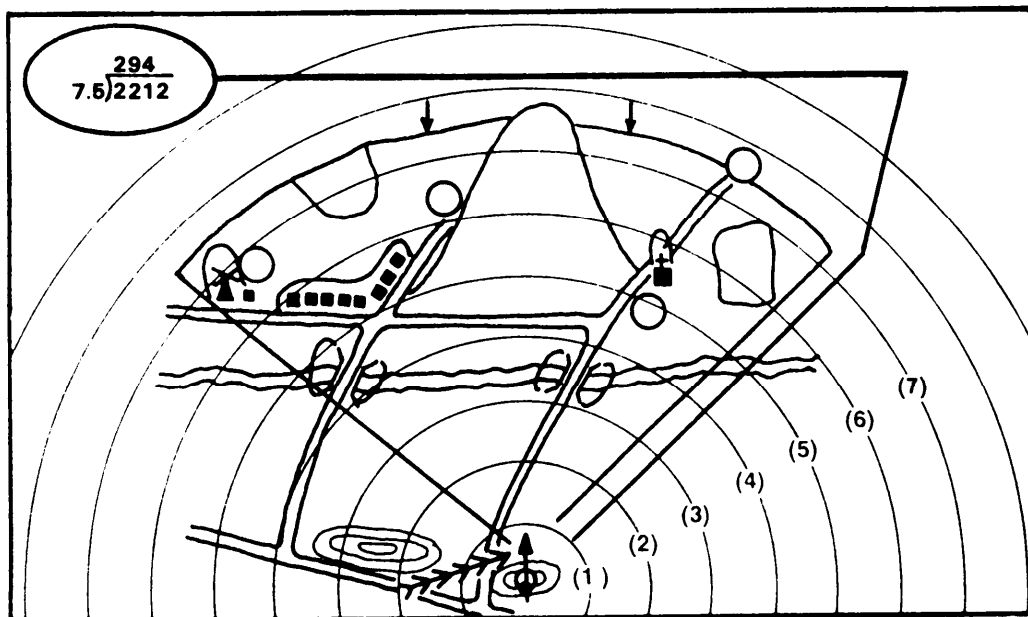

Figure 5-24. Determination of range the circles represent.
- o Each circle equals 294 meters--write in the distance in meters between the circles. To find the distance, count the intervals from the weapon to the maximum engagement line. Divide the number of intervals into the range. This gives the distance between circles (Figure 5-24). For example: